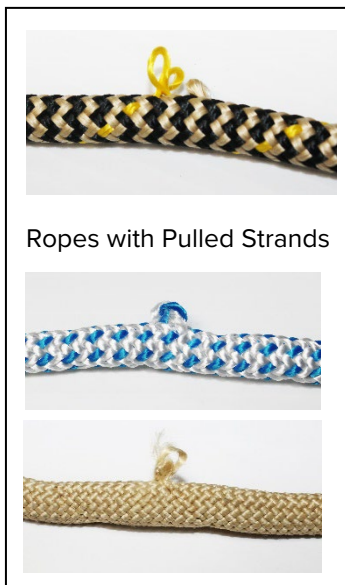

Fig. 3a
- Do not use rope that shows signs of excessive wear such as but not limited to those shown in Fig. 3a through 3d.